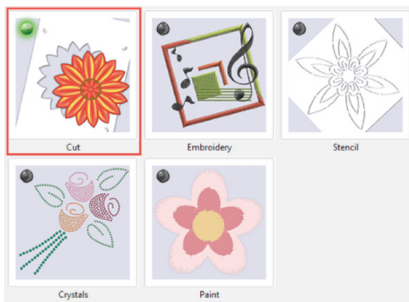

Fig. 1
2. In the *Techniques* dialog, select just the **Cut** option (See Fig. 1). Remove the bullets from all other techniques and <Next>